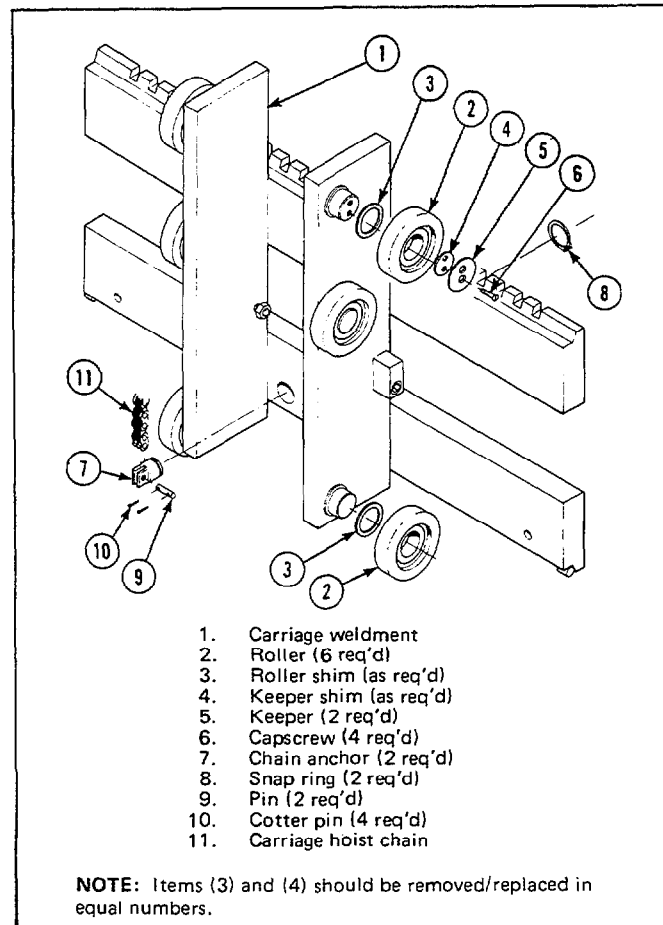

Figure 40. The Carriage Assembly
1. Assemble the carriage load rollers onto their stub shafts using an appropriate number of shims. See Figure 40. The shims should be installed to provide a clearance no greater than .030 inch at the tightest spot throughout its travel. Refer to Section 5.3-12 for load roller shimming.